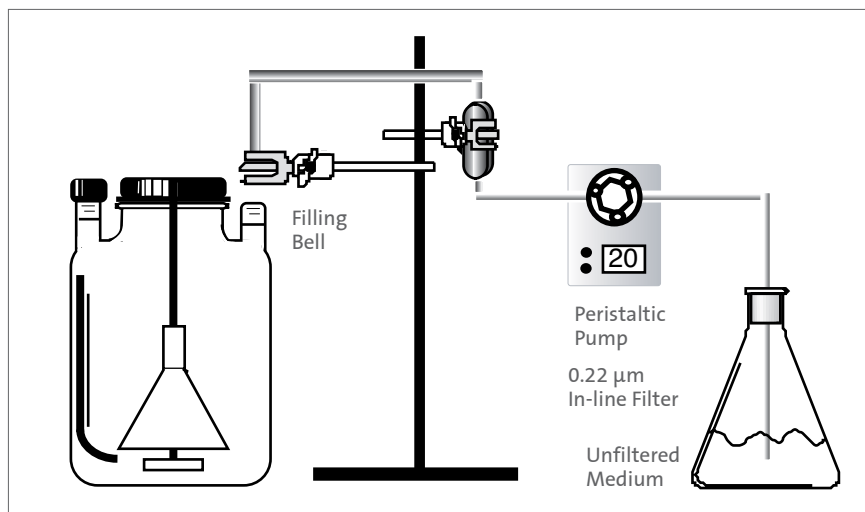

Figure 17. Large vessel being filled with the use of a filling bell and ring stand
3. “In-line” addition is an alternative. Unsterilized medium can be added by filtering “in-line,” using a length of sterilized tubing connected to a 0.2  $\mu\text{m}$  filter attached between the unsterilized medium source and the vessel. Either gravity-feed or a peristaltic pump can be used to move the fluid. By using a filling bell supported by a ring stand (Figure 17), several vessels can be rapidly filled.